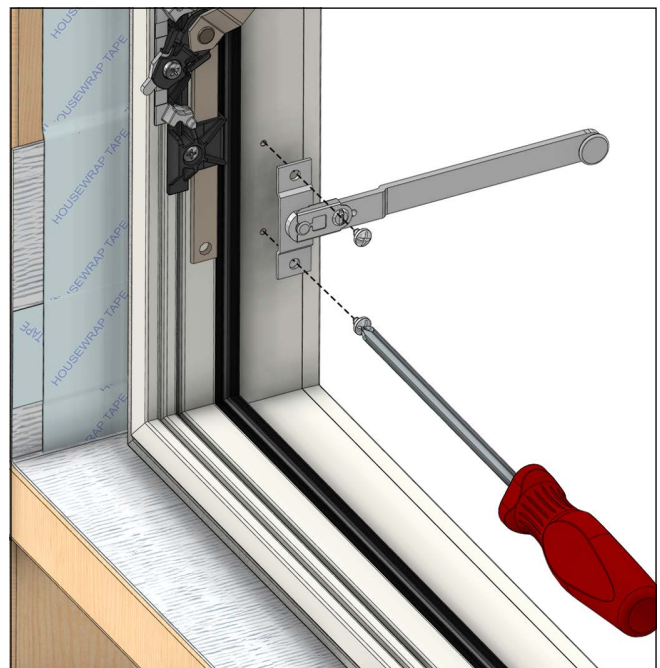

Figure 4
4. Align the sash limiter to the pre-drilled holes. Attach the limiter arm to the frame with the #8 x 3/8" T20 Torx tamper-proof PH Type AB screws provided. Use a screwdriver or drill to tighten. DO NOT OVERTIGHTEN! See Figure 4.